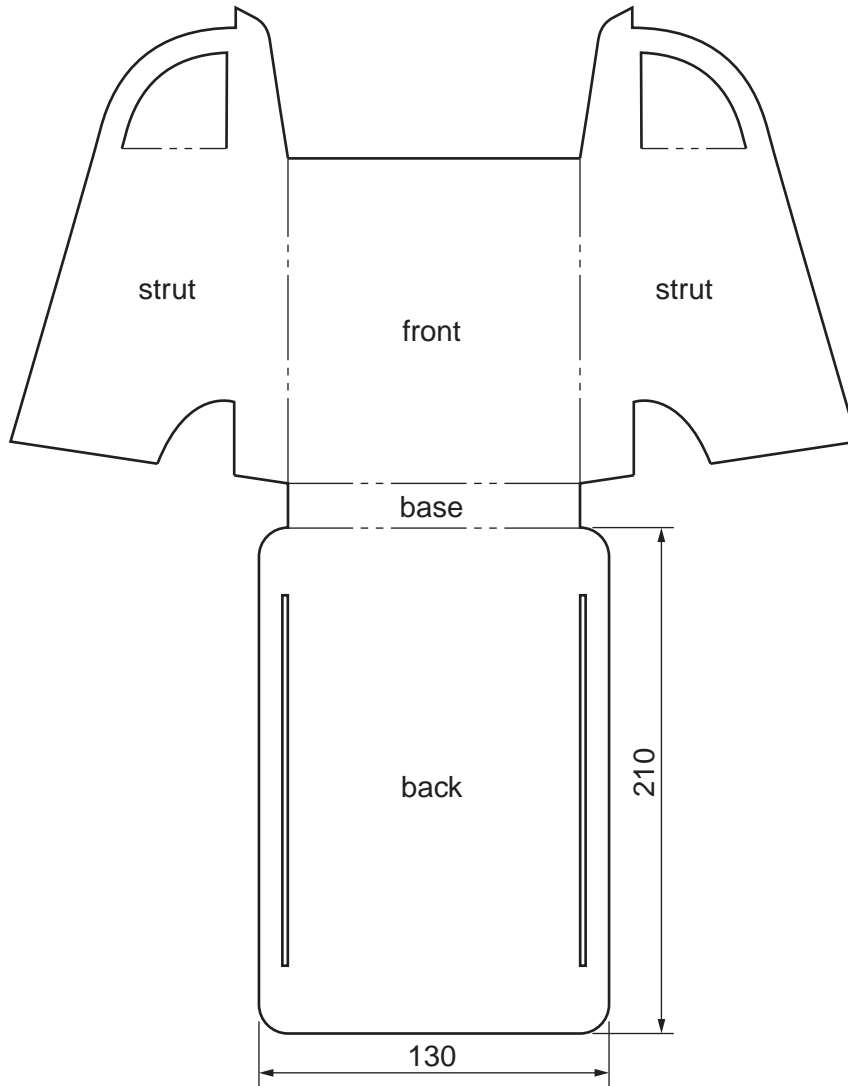

**Fig. 1**
- 1 Fig. 1 shows a magazine rack, constructed from pine, which is to be made in a school workshop.